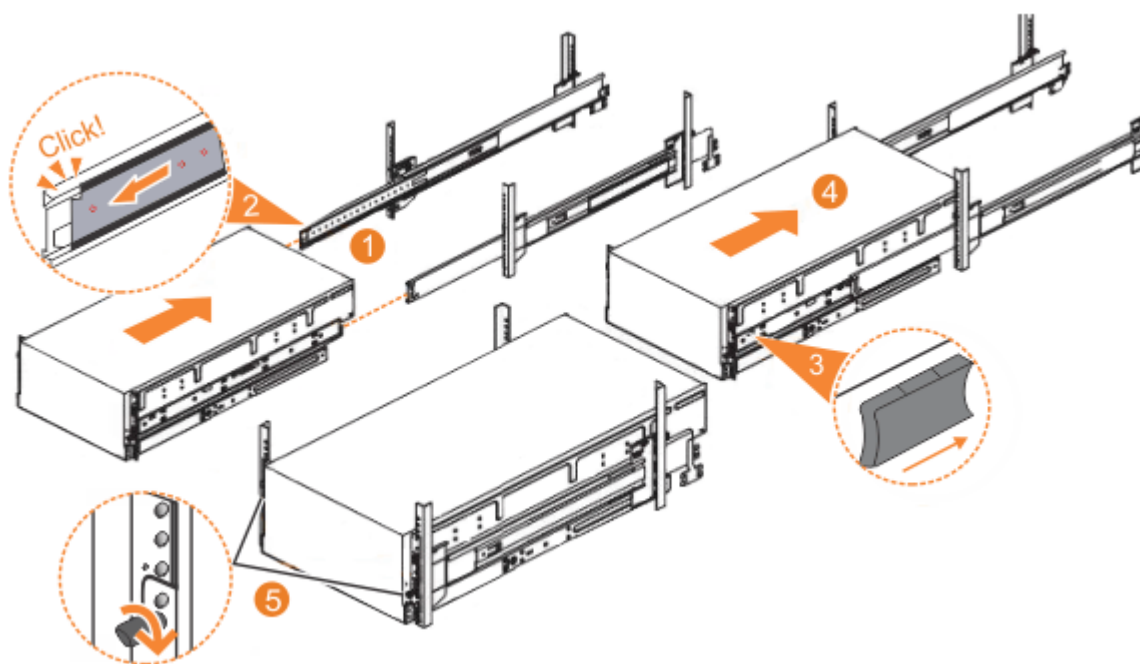

Figure 50. Replacing the 2076-92F enclosure in the rack
1. Fully extend the left and right drawer sections from the rack to lock the rails in the extended position (1 in Figure 50 on page 51).
2. Ensure that the ball bearing retainer clicks into place inside the front of the left and right drawer sections (2 in Figure 50 on page 51).
3. Locate the left and right blue release tabs near the front of the enclosure. Press both release tabs forward to unlock the drawer mechanism (3 in Figure 50 on page 51).
4. Push the enclosure firmly into the rack (4 in Figure 50 on page 51).
5. Tighten the locking thumb screws (5 in Figure 50 on page 51) to secure the enclosure in the rack.